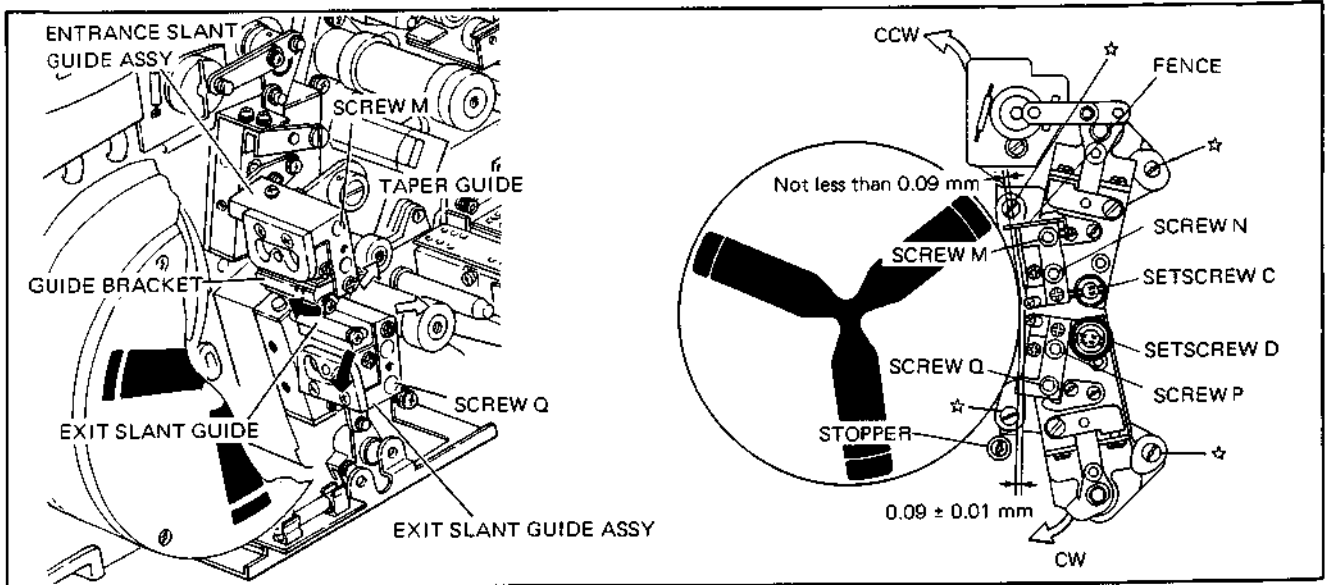

Fig. 10-26. Overlap Adjustment
1. When the overlap B is less than the specified value (see Fig. 10-26).
2. When the overlap C is less than the specified value (see Fig. 10-26);